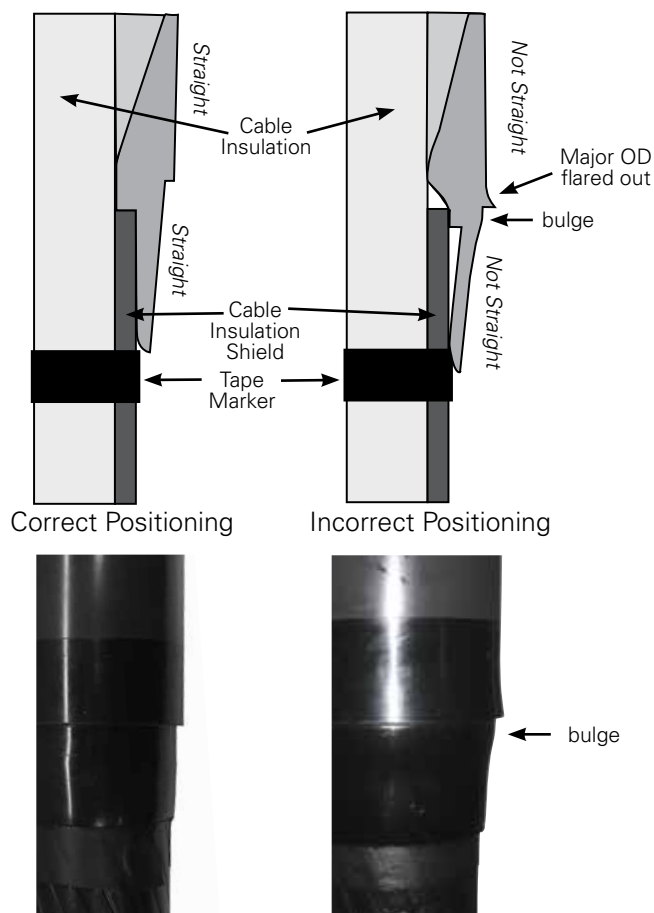

Figure 9. Cross sectional view of cable adapter positioning.
- After sliding the cable adapter into position make sure that no bulge is present (see Figure 9).